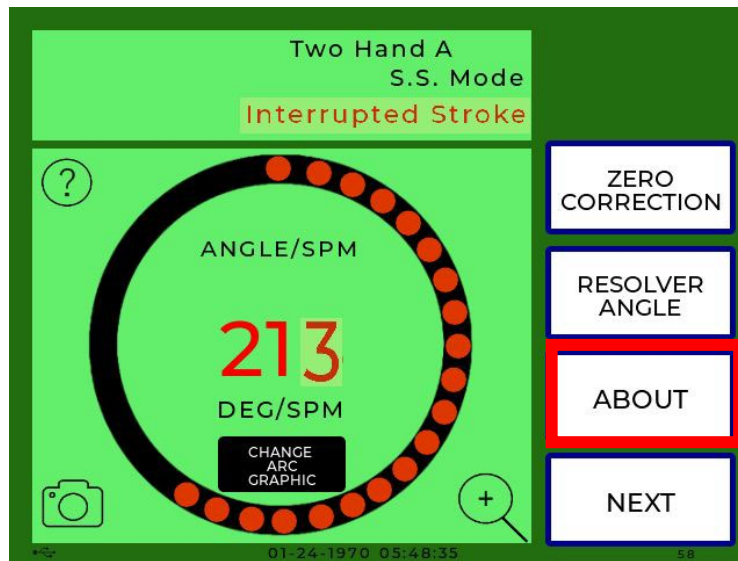
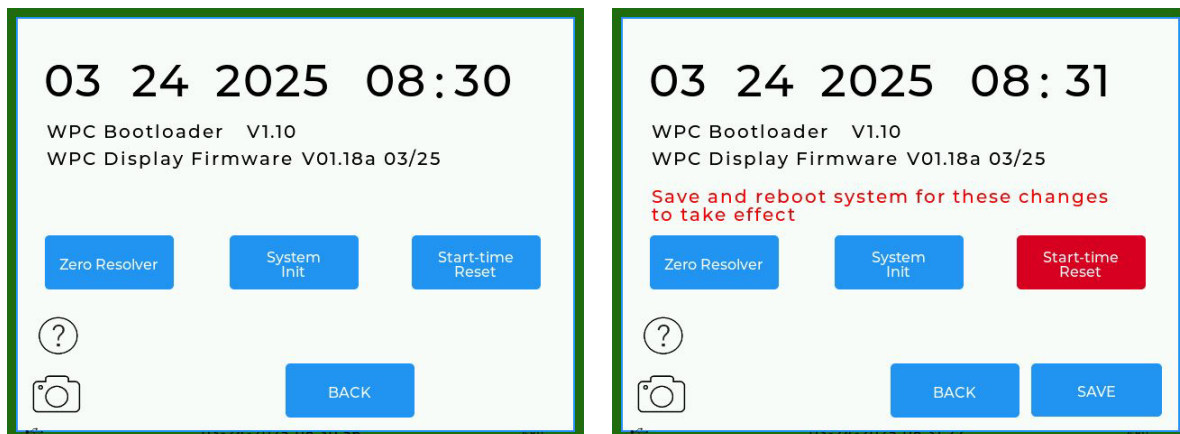

Figure 19. Program Screen, Indicating ABOUT Button
Figure 20. Initialization Screen Before (left) and After Pressing Start Time Reset
2. On the screen that appears, Figure 19, press ABOUT. The Save Screen, Figure 20, appears.